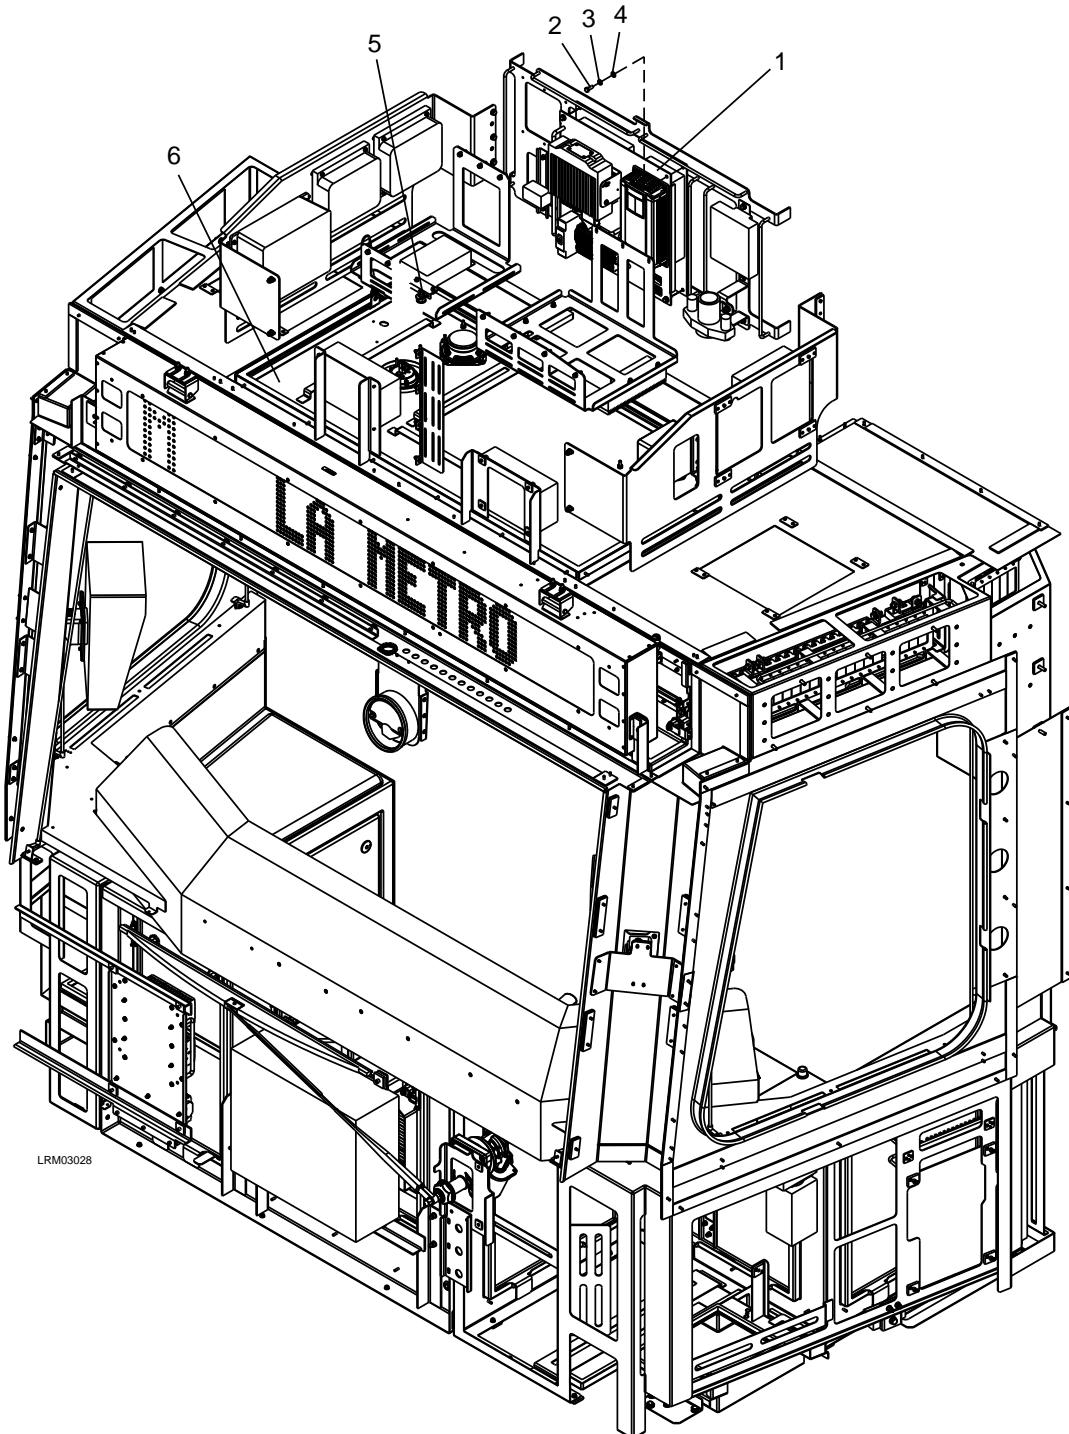

Figure 7-24: Radio Power Supply
1. Unlock the two locks (5) and lower the cab ceiling panel (6) to access the Radio Power Supply (1). See Figure 7-24.